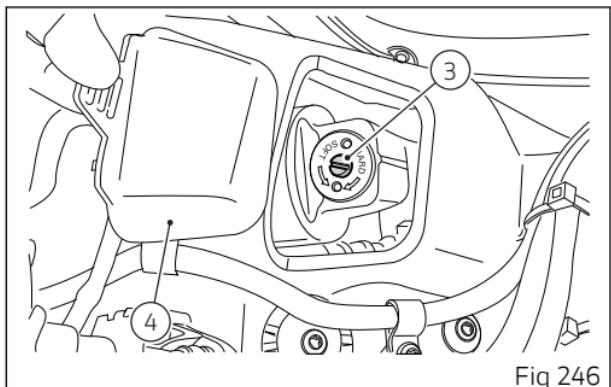

Fig 246
The adjuster (3, Fig 246) located on the expansion reservoir of the shock absorber adjusts the damping during the compression phase.
Reach adjuster (3, Fig 246) removing the seat and lifting the cover (4, Fig 246).
- loosen adjuster (3, Fig 246) by 1.5 turns.